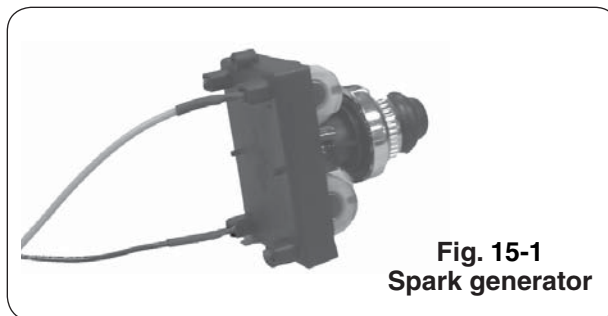

Fig. 15-1
- c. Carefully pull the left end of the backburner forward until the burner can be moved to the left pulling it free from the orifice located on the right side (see Fig. 15-1).
**Note:** Carefully, lift the face away from the frame. The spark generator for the ignition system is attached to the inside of the face panel. The spark generator knob need not be detached, but the wires must be unplugged from the generator before the face is completely removed (see Fig. 15-1).